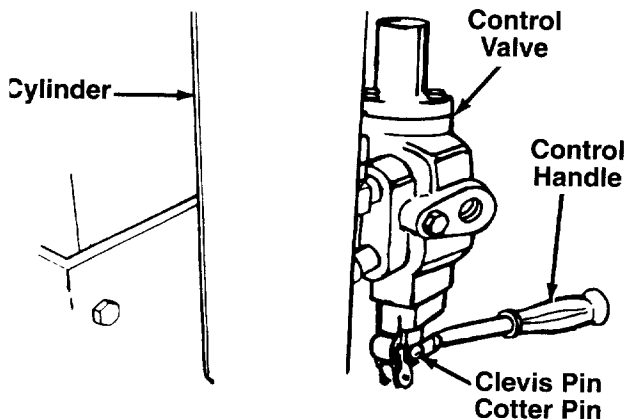

FIGURE 8.
1. For shipping purposes, the pressure hose is attached to the pump on the engine, and to the control valve on the cylinder (see figure 8). Disconnect the pressure hose from the control valve.
2. The bottom of the control handle is already attached to the control valve. Remove the cotter pin and clevis pin which are attached to the valve. Place handle in position, and secure to the valve using the cotter pin and clevis pin. See figure 8.